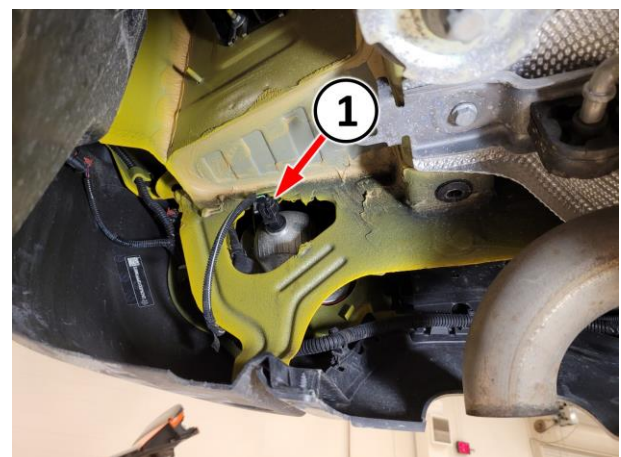

Figure 9 – Bumper Lamp
17. Disconnect the wire harness connector from the rear bumper lamps on both sides of the vehicle (Figure 9).
29. Connect the wire harness connector to the rear bumper lamps on both sides of the vehicle (Figure 9).